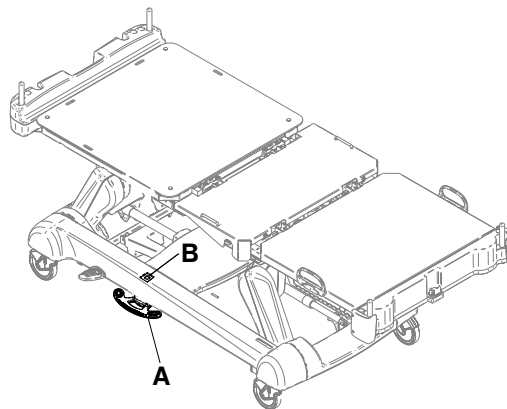

Figure 6 – Brake pedal window
2. Press down the brake pedal (A) until **Brake** appears in the brake pedal window (B) (Figure 6).
To release the manual brakes, press down the pedal until **Neutral** or **Drive** appears in the brake pedal window (B) (Figure 6).